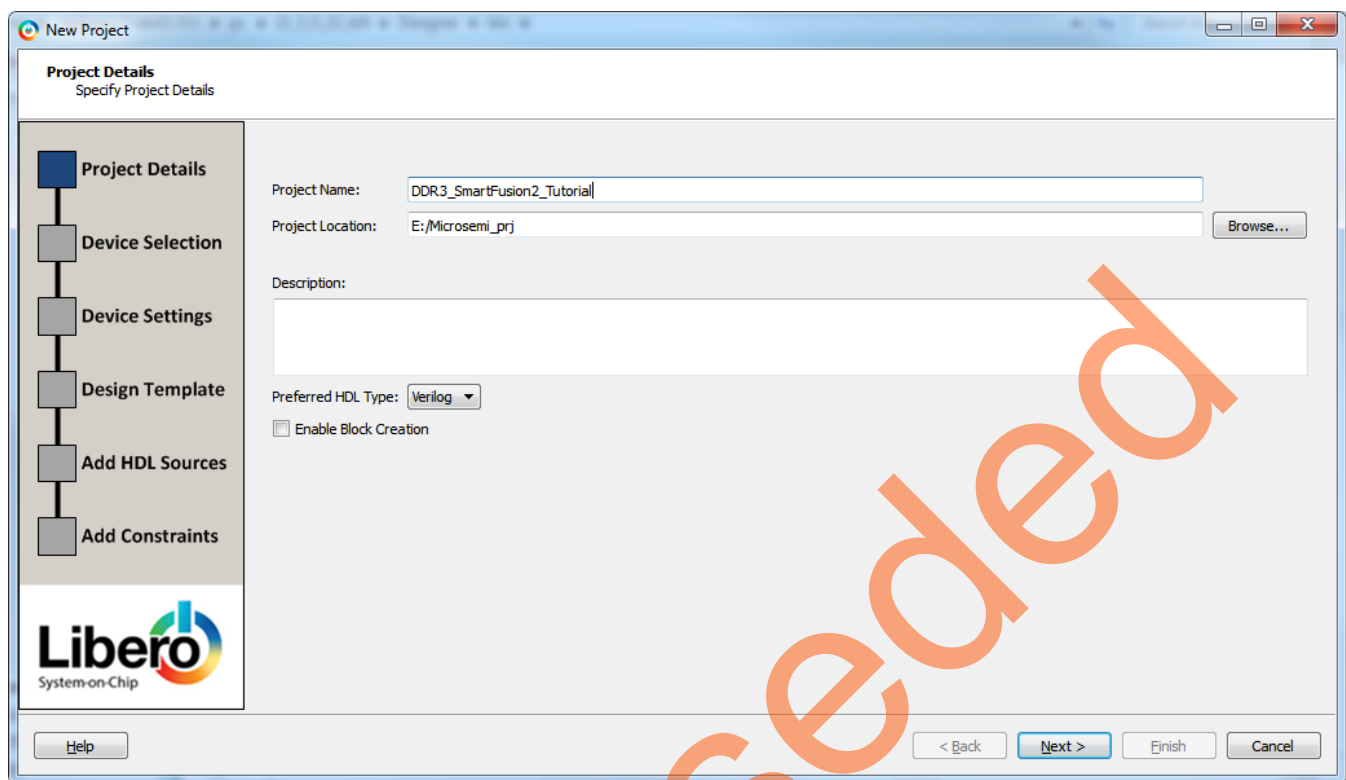

Figure 2. New Project Details Window
2. From the **Project** menu, select **New Project**. In the **Project Details** window, enter the information as displayed in **Figure 2**.